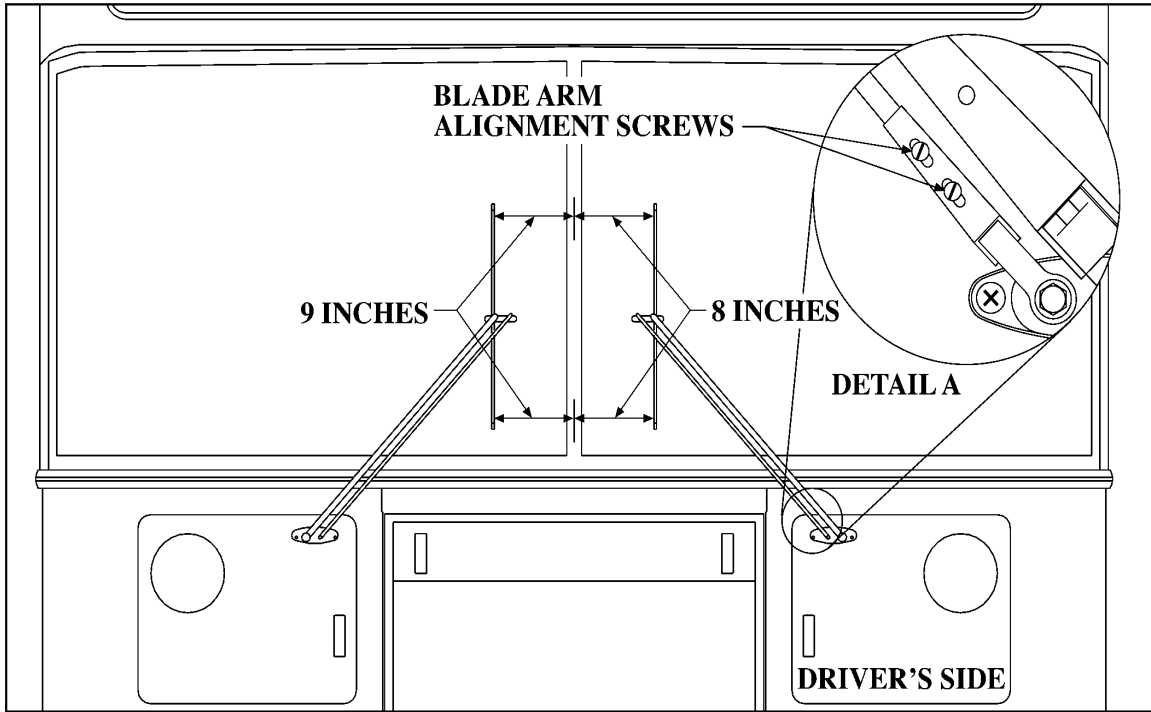

Figure 7—Blade Arm Alignment
7. See Figure 7—Blade Arm Alignment
5. Adjust wiper blade for correct alignment. **Figure 7—Blade Arm Alignment.**